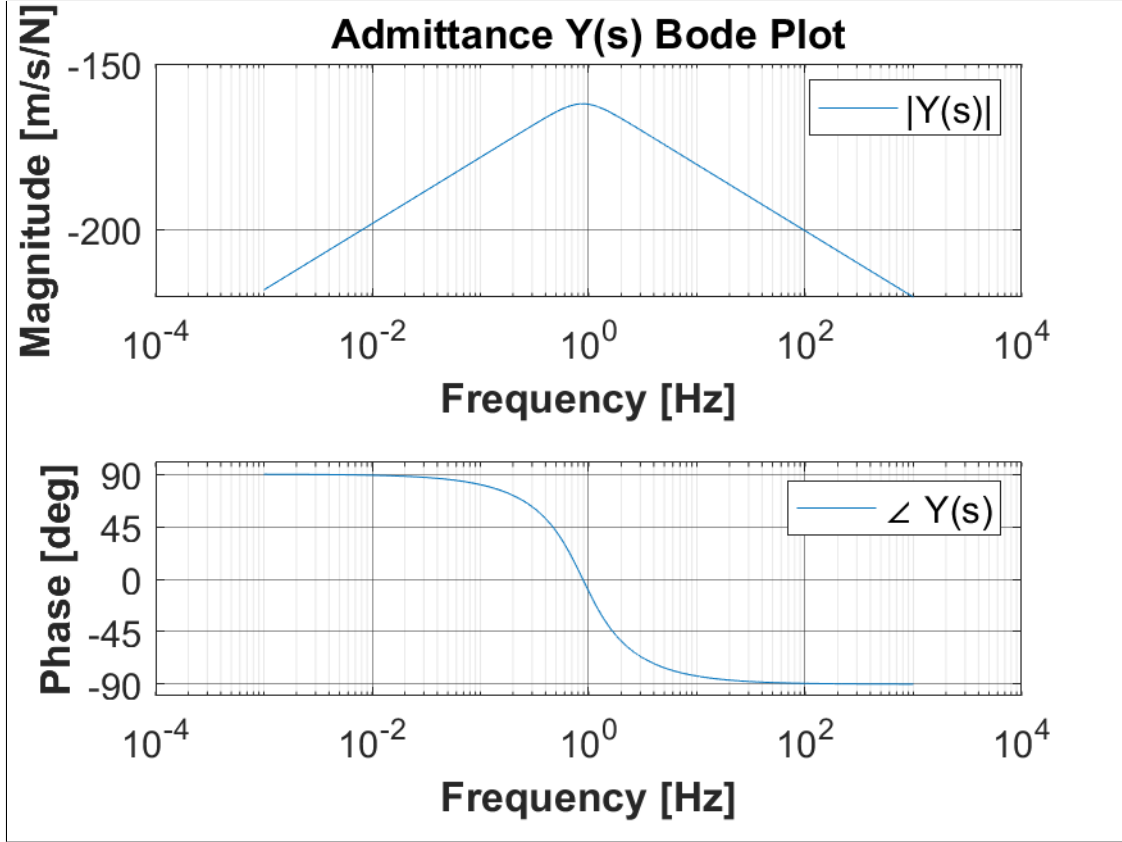

Figure 14: Bode Plot of $Y(s)$. $\omega_n = 5.542 \frac{rad}{s}$
Given that $L = 12.6m$, $m = 6.6 \times 10^5 kg$, and $C = 8.0 \times 10^5 \frac{kg}{s}$, here is the plot for the admittance Bode plot in Figure 14 . Here is the derivation of the admittance transfer function $Y(s)$ in Equation (27).